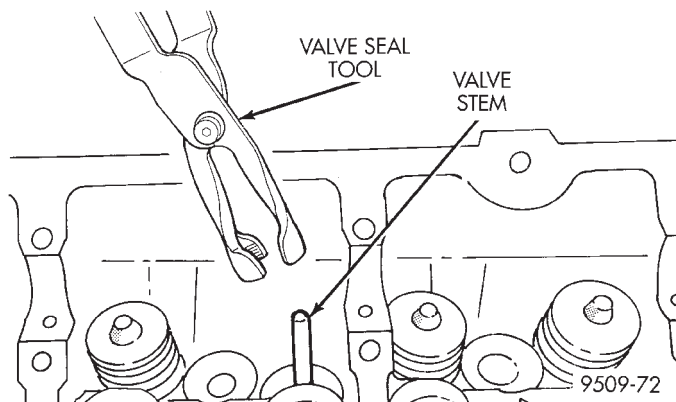

Fig. 20 Valve Stem Oil Seal Tool
- (5) Remove valve spring.
- (6) Remove valve stem seal by using a valve stem seal tool (Fig. 20).